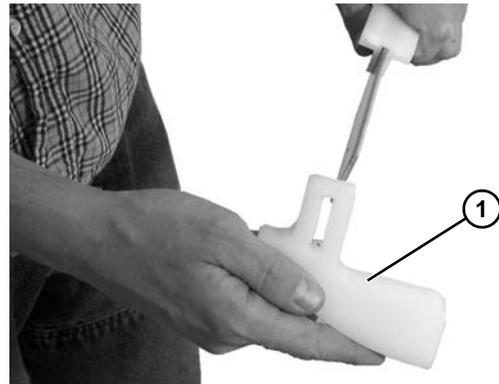

Figure 52
4. Remove and replace nose bar idler shoe if worn (**Figure 52, item 1**).